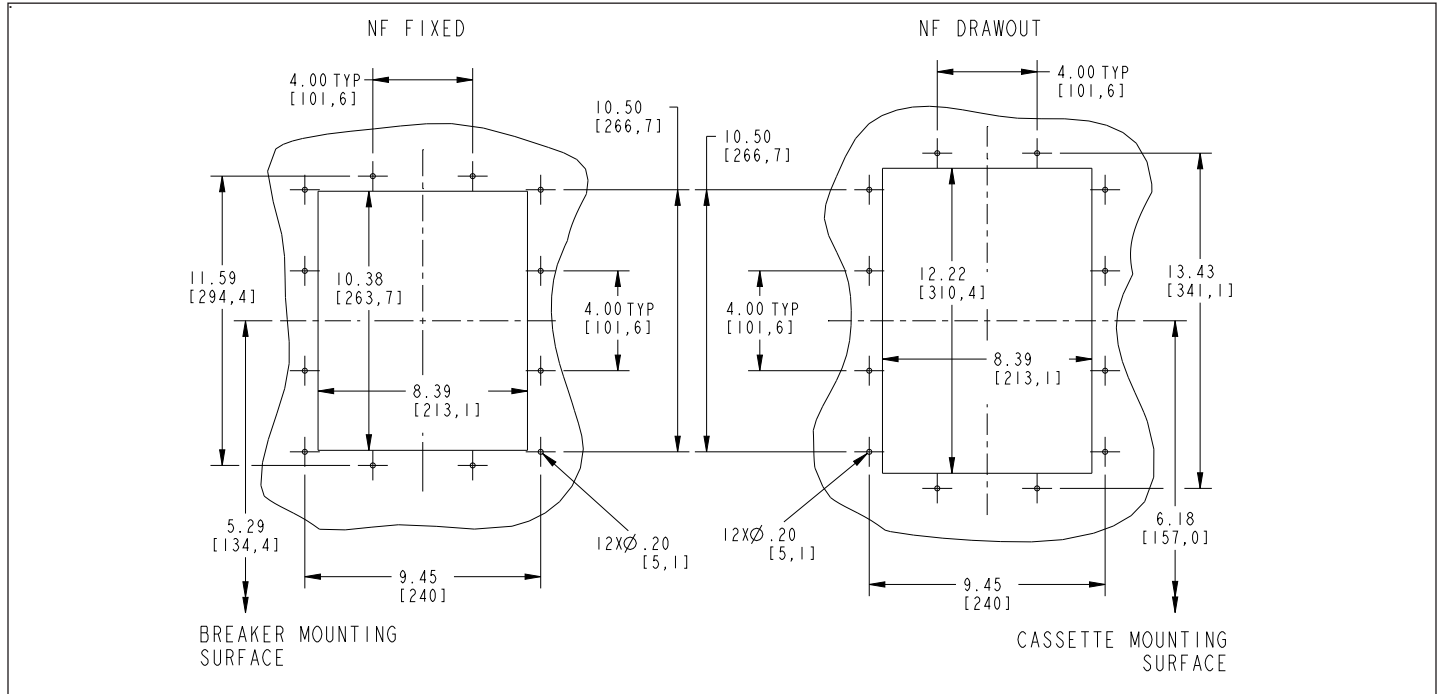
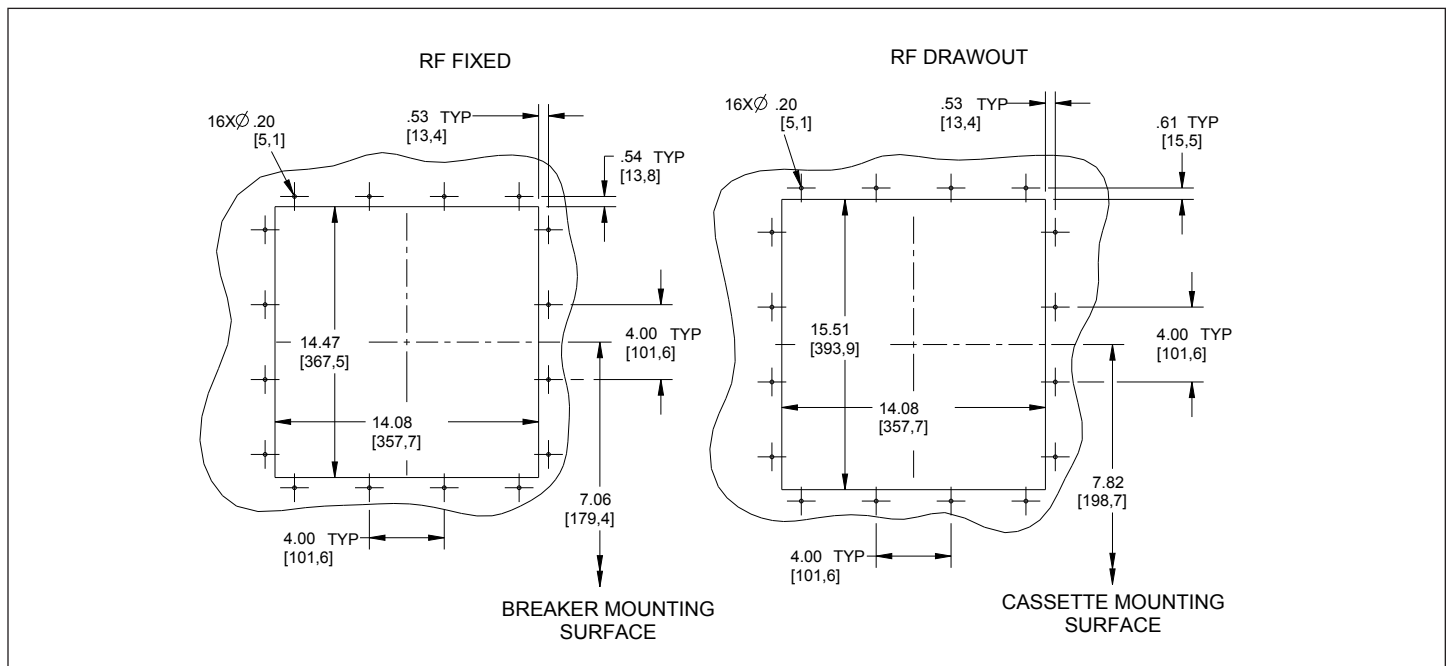

Figure 3. Step 1 - Dimensions in inches (mm) for a NF frame breaker.
Figure 4. Step 1 - Dimensions in inches (mm) for a RF frame breaker.
**Step 1:** Select the appropriate compartment door cutout and drill pattern for a fixed circuit breaker or a drawout circuit breaker from Figure 3 for the NF frame or Figure 4 to the RF frame.